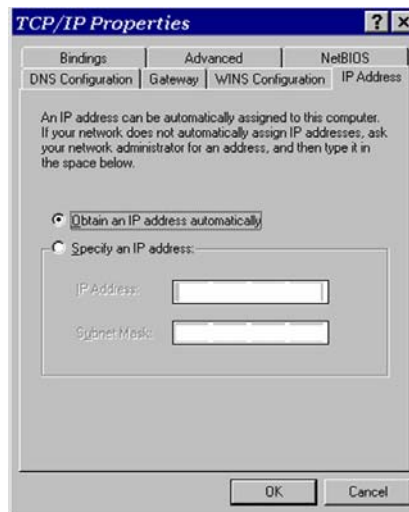

Figure A-1: TCP/IP Properties Window
4. Select TCP/IP properties of your LAN card. The window shown in **Figure A-1** will appear.